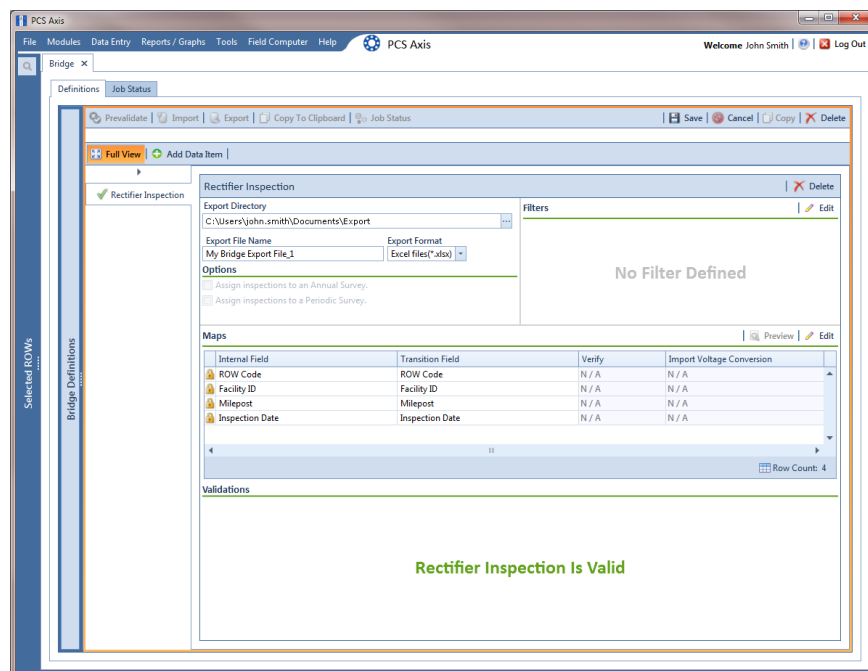

Figure 10-33. Bridge Definition
- c Click **OK** to close the dialog box and return to the definition window (Figure 10-33). Then click **Save**.